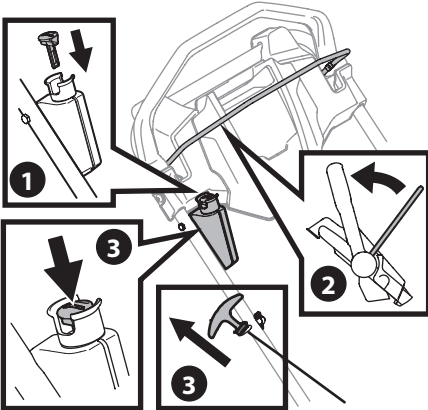

Figure 6
2. Standing behind the mower, pull the blade control back against the drive control (Figure 6).
- **Recoil Start:** While holding the blade and drive controls together firmly, pull the recoil starter handle lightly until resistance is felt, then pull rapidly to overcome compression, prevent kickback, and start the engine. Repeat if necessary (Figure 6).
• **Electric Start (If Equipped):** Push the electric starter push key to start the engine (Figure 6).